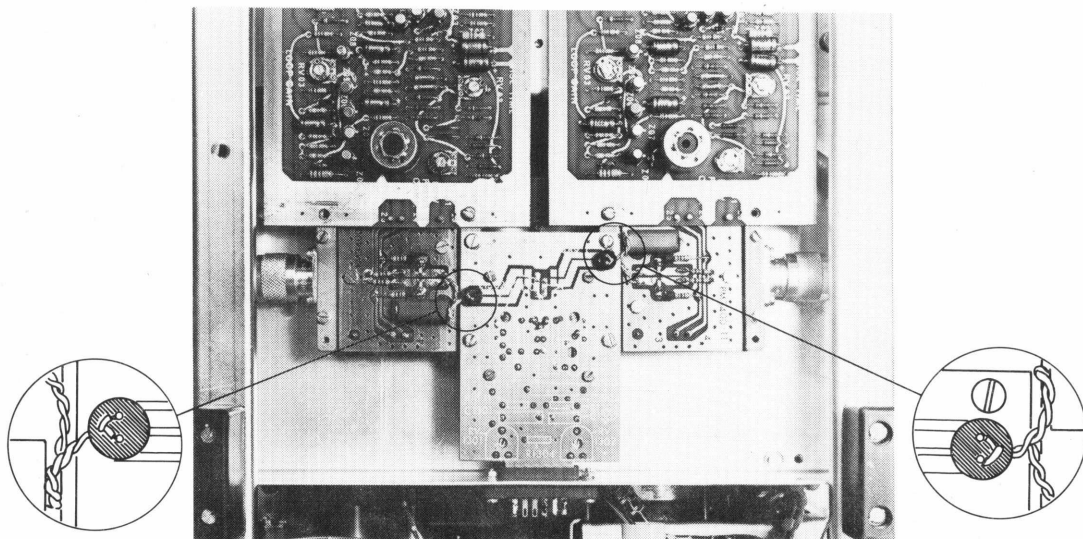

Fig. IX-10 Removing the sampling head
- Connect the plugs on printed-wiring card 13 according to Fig. IX-10.